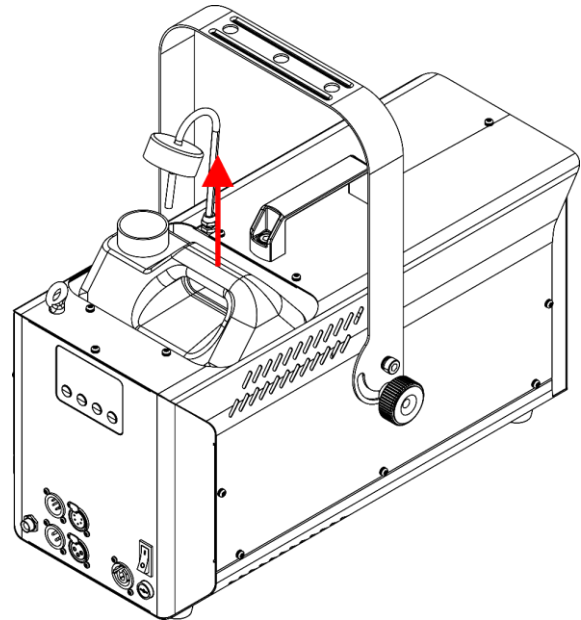

Fig. 15
- 03) Take out the fluid tank, as shown in Fig. 15.